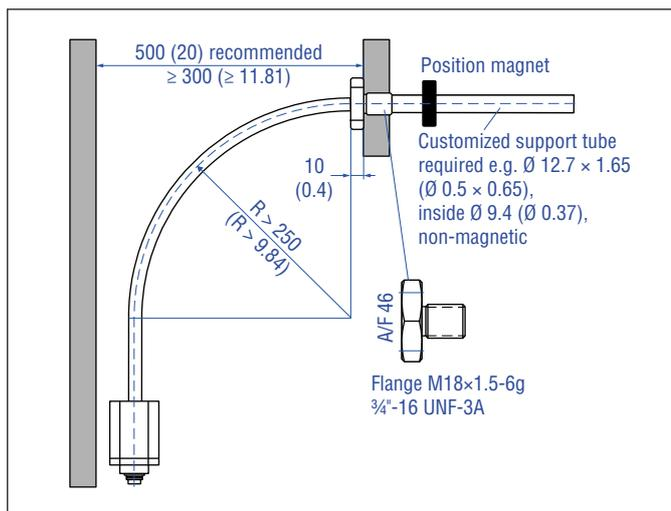

Fig. 31: Clearances for installation and handling
3. Note the minimum distance to a spatial limitation of 300 mm (11.81 in.), when mounting/dismounting the sensor. The recommended distance is 500 mm (20 in.) (Fig. 31).